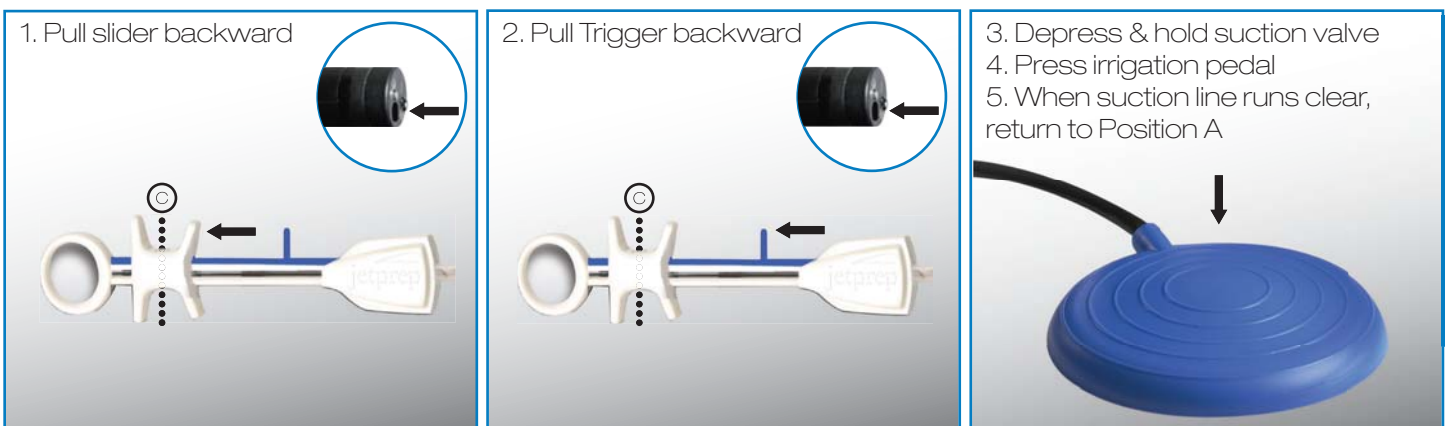

Figure 5: For cleaning the aspiration channel, handle slider is moved to Position C.
- 7.3. To clean the aspiration channel, in case the working channel is blocked during aspiration, place the distal tip inside the working channel by pulling the handle slider all the way back to position C (see figure 5), pull trigger back, and deliver fluid together with vacuuming.